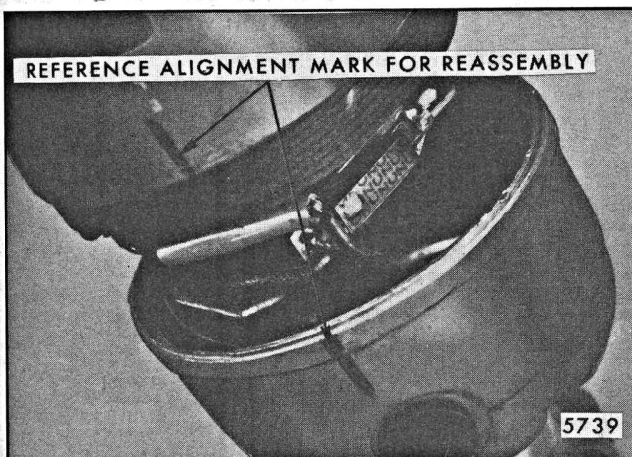

Fig. 2-111-Motor Case Alignment Marks
1. Scribe a reference line along the side of the casing and end cap to insure proper reassembly (Fig. 2-111).
away from the casting (Fig. 2-111) until the armature shaft clears the casting bearing.